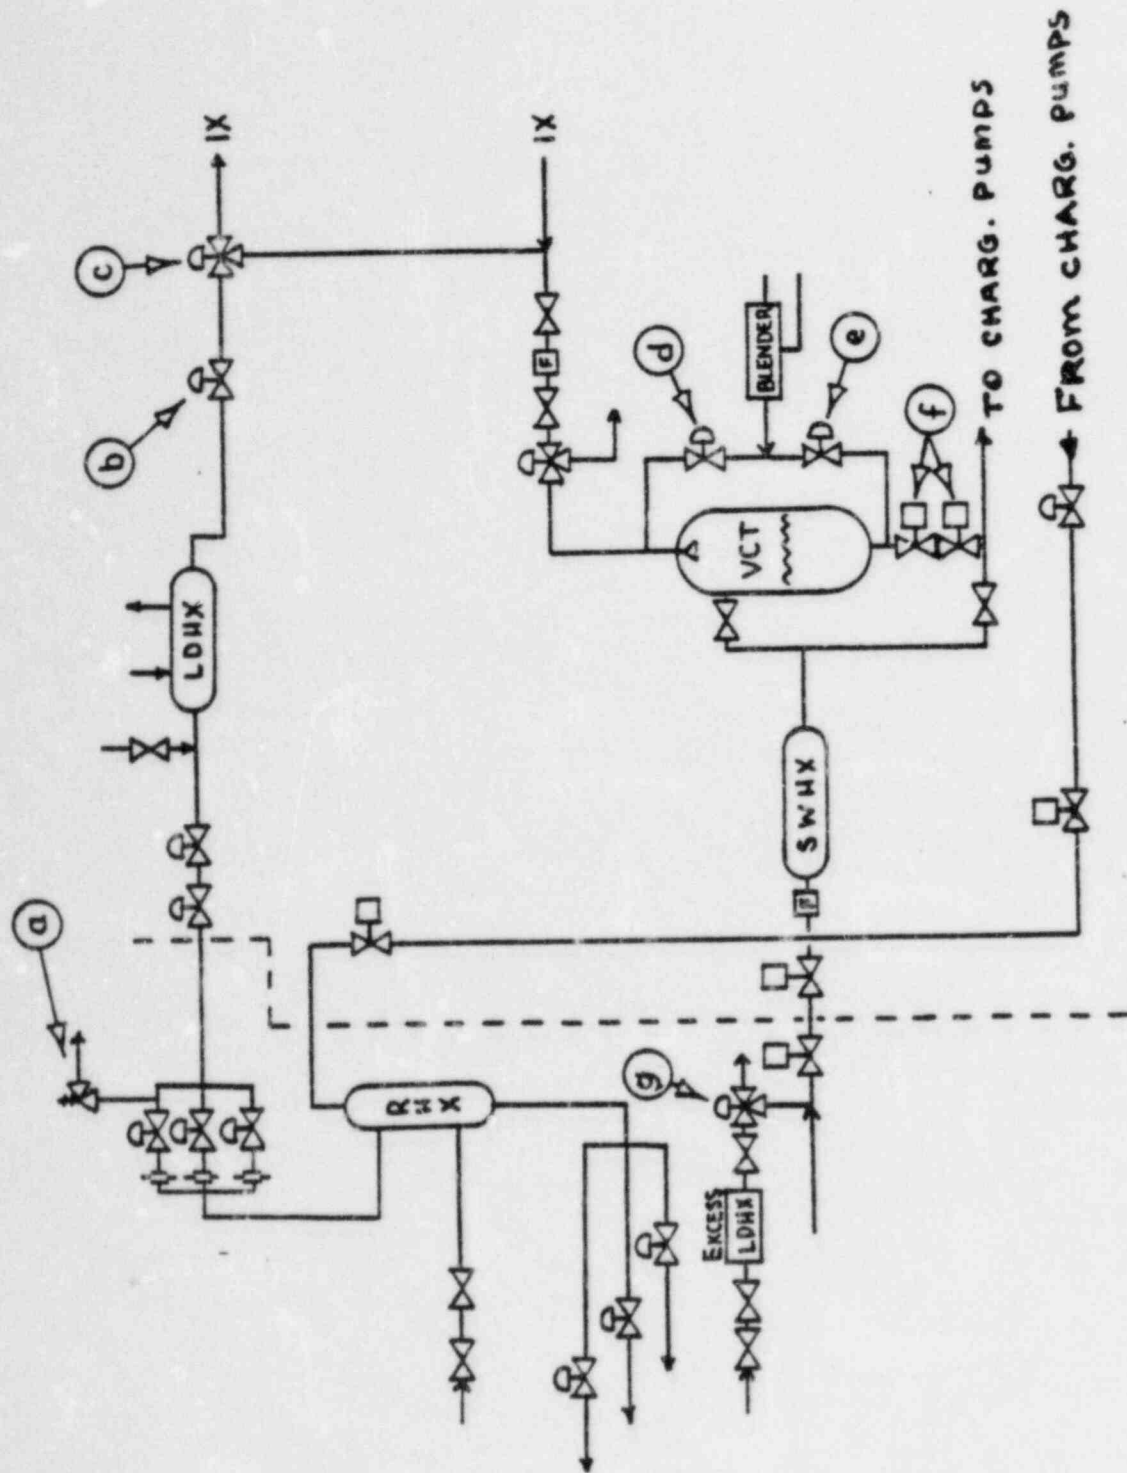

Figure 6.1
- 20 Utilizing the attached CVCS drawing, (Figure 6.1), answer the following questions.